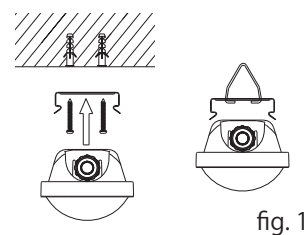

fig. 1
**fig. 1:** Mark drill points, drill the holes, insert the dowel and fasten the clamps with the screws. Use suitable material for wooden walls or lightweight walls. Suspensions can be mounted directly to the clamps.